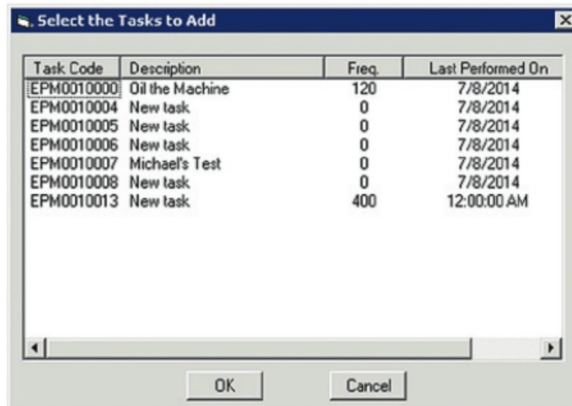

Figure 38. Select the Tasks to Add dialog.
5. Select a task in the **Task Selection** dialog window (see Figure 38).